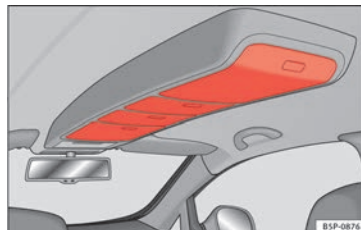

Fig. 87 Roof storage compartments.
- Press the button on the cover to open these compartments » **Fig. 87**. The cover will then open.